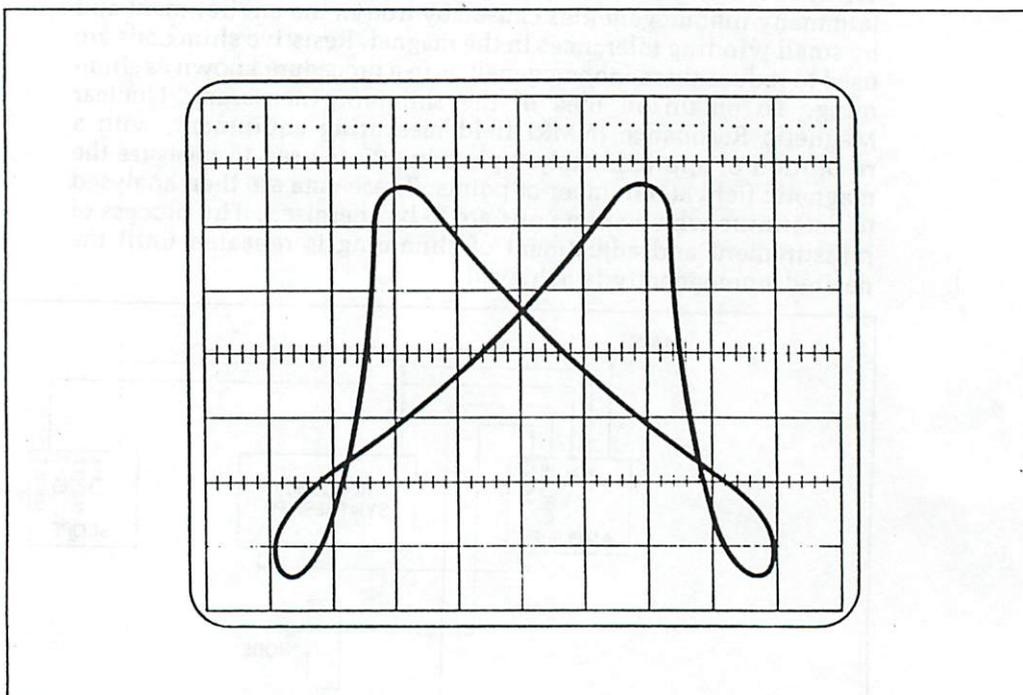

Figure 4.15
- 3 Find the signal on the oscilloscope (Fig. 4.15).